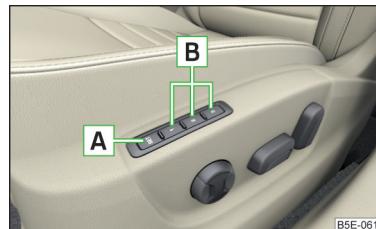

Fig. 66 SET button and memory buttons
Among the memory buttons **B** on the driver's seat, a setting for the driver's seat and exterior mirror position can be saved » Fig. 66.
- ▶ Press the SET **A** » Fig. 66 button and then, within 10 seconds, press the desired memory button **B**. Storing is confirmed by an acoustic signal.
- ▶ Turn on the ignition and press the desired memory button **B** » Fig. 66.